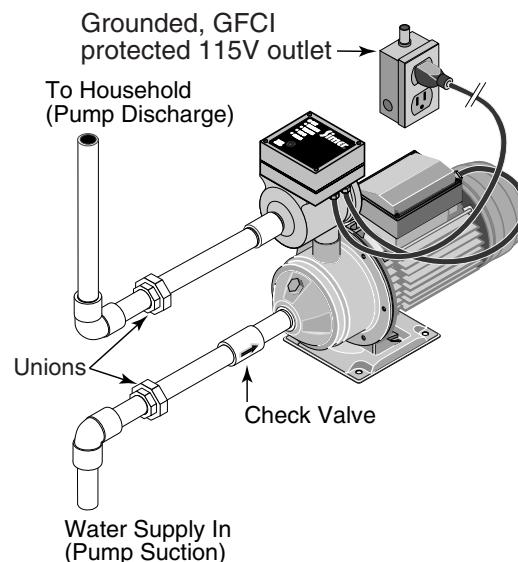

Figure 2: Typical household booster installation.
ing the full pump flow at 100 psi (689 kPa) (See Figure 2). If local code requires installation of a pressure relief valve capable of handling the full pump flow at a pressure less than 100 psi (689 kPa), follow the code requirements. Run the relief valve discharge to a floor drain or other drain that will give adequate runoff.
9. Install piping from elbows to pump including a union in each line and a check valve in the pump suction line. The arrow on the check valve must point to the pump suction (see Figure 2). If not already in the plumbing system, install a pressure relief valve in the pump discharge line capable of passing the full pump flow at 100 psi (689 kPa). If local code requires installation of a pressure relief valve capable of handling the full pump flow at a pressure less than 100 psi (689 kPa), follow the code requirements. A low pressure safety cutoff switch should also be installed in the discharge line, and may be required by your local codes.
WARNING Hazardous voltage. Risk of dangerous or fatal electric shock. Plug the pump into a 115 Volt, 60 Cycle, Ground Fault Circuit Interrupter (GFCI) protected grounded outlet only. The pump is equipped with a 3-wire grounded cord and plug. Do not modify or remove the plug. Make sure the outlet meets the National Electric Code or the Canadian Electrical Code, as applicable. To avoid dangerous electrical shock hazard, keep the cord dry at all times. See Figure 2.